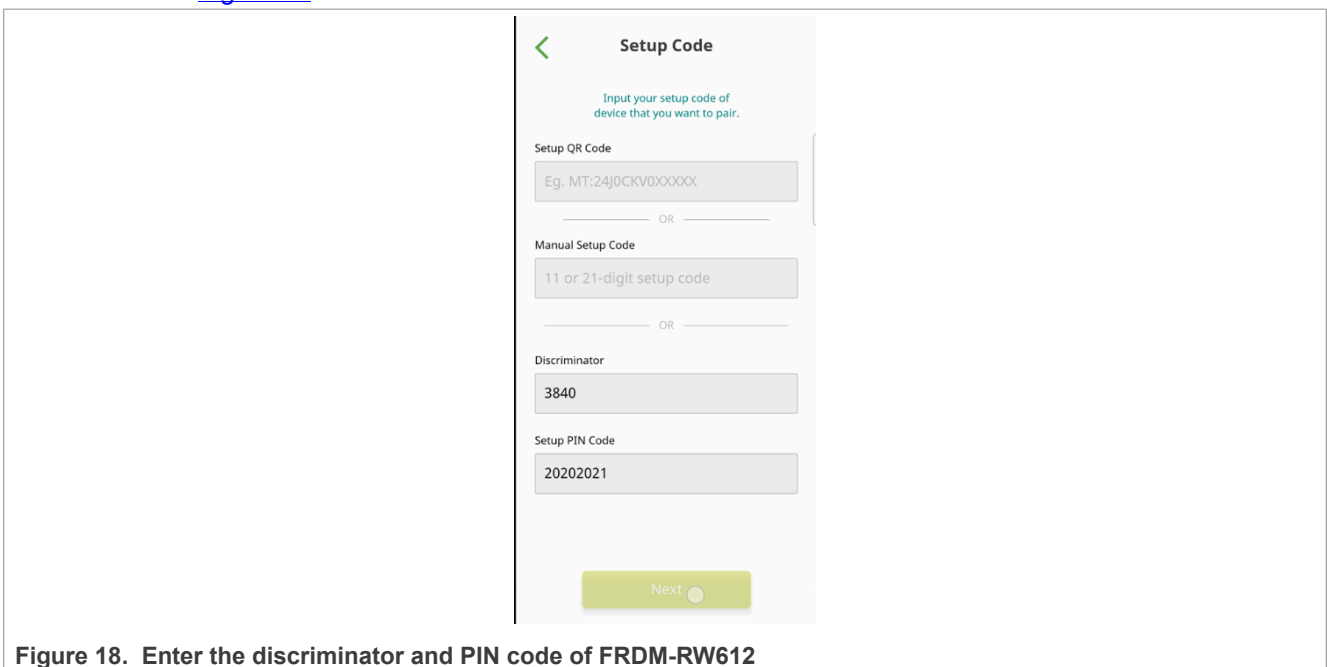

Figure 18. Enter the discriminator and PIN code of FRDM-RW612
2. Enter the discriminator and PIN (the default ones are 3840 and 20202021 respectively) on the below page as shown in Figure 18.